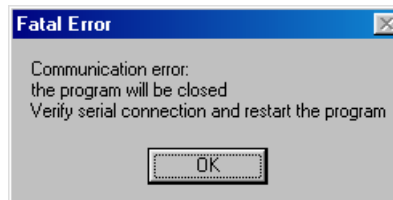

Figure 28 Communication Error Message
- ❑ **"Communication error: the program will be closed. Verify serial connection and restart the program,"** as shown in Figure 28